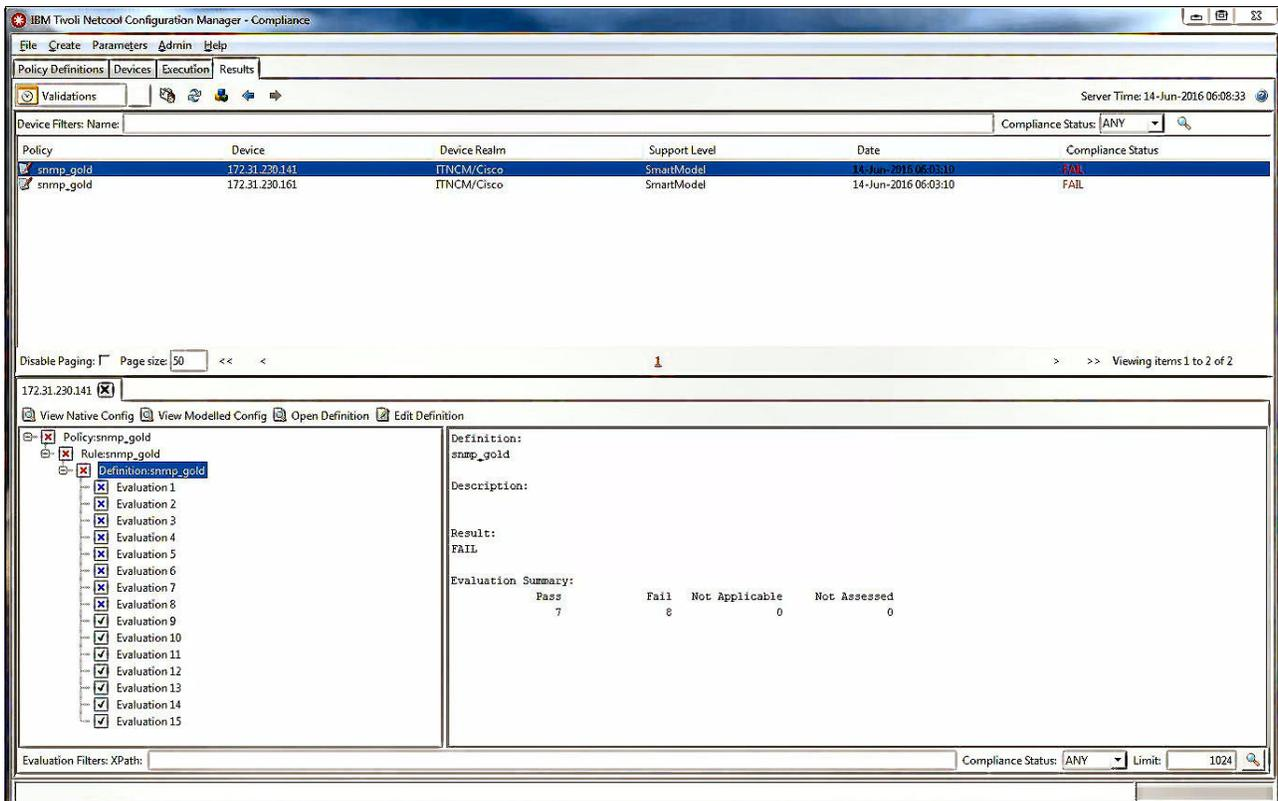

Figure 4-20 Execution Results Summary
- In the next window, select a device and view the results by double-clicking the device name. In the lower portion of the window, you can see a summary of the evaluation results by clicking the **Definition** in the right pane, as shown in Figure 4-20.